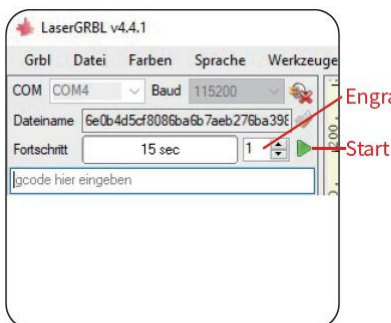

Figure 18 Start engraving/cutting
- After completing all the above settings, click the green button as shown in the Figure 18 to start engraving/cutting. There is an editable number next to the start button, and this number is the times of engraving /cutting. LaserGRBL allows multiple consecutive operations on the same image. This function is especially useful for cutting